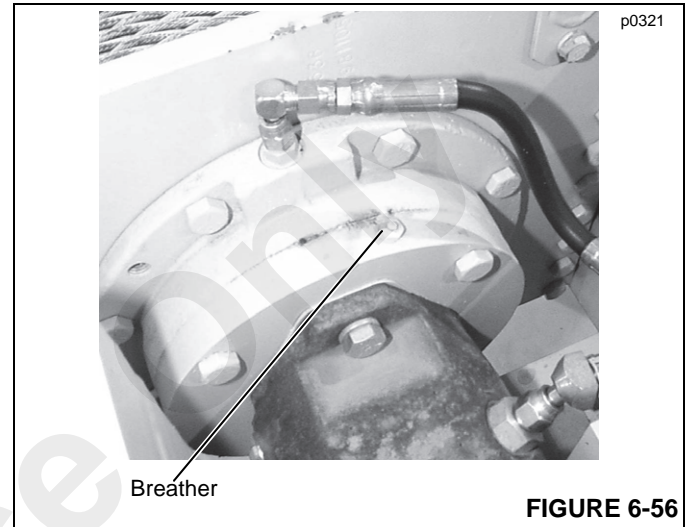

FIGURE 6-56
6. Clean around the area of the brake breather (Figure 6-56). Remove the breather.